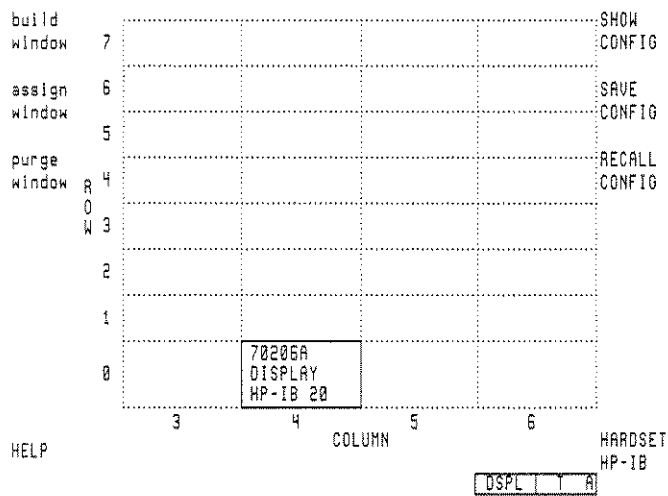

Fig. 30
3. Press **HARDSET/SOFTSET HP-IB** so that the display is left in the HARDSET mode as in Figure 30.